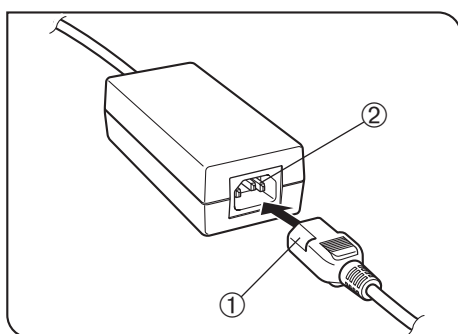

Fig. 53
Operation Using the AC Adapter (Fig. 53)
1. Insert the connector ① of the power cord firmly into the input connector ② of the AC adapter (Fig. 53).